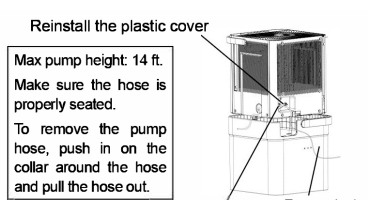

Fig. 14
- To install the pump hose, remove the plug from the pump drain hole and firmly attach the the included pump hose as shown in Fig. 14